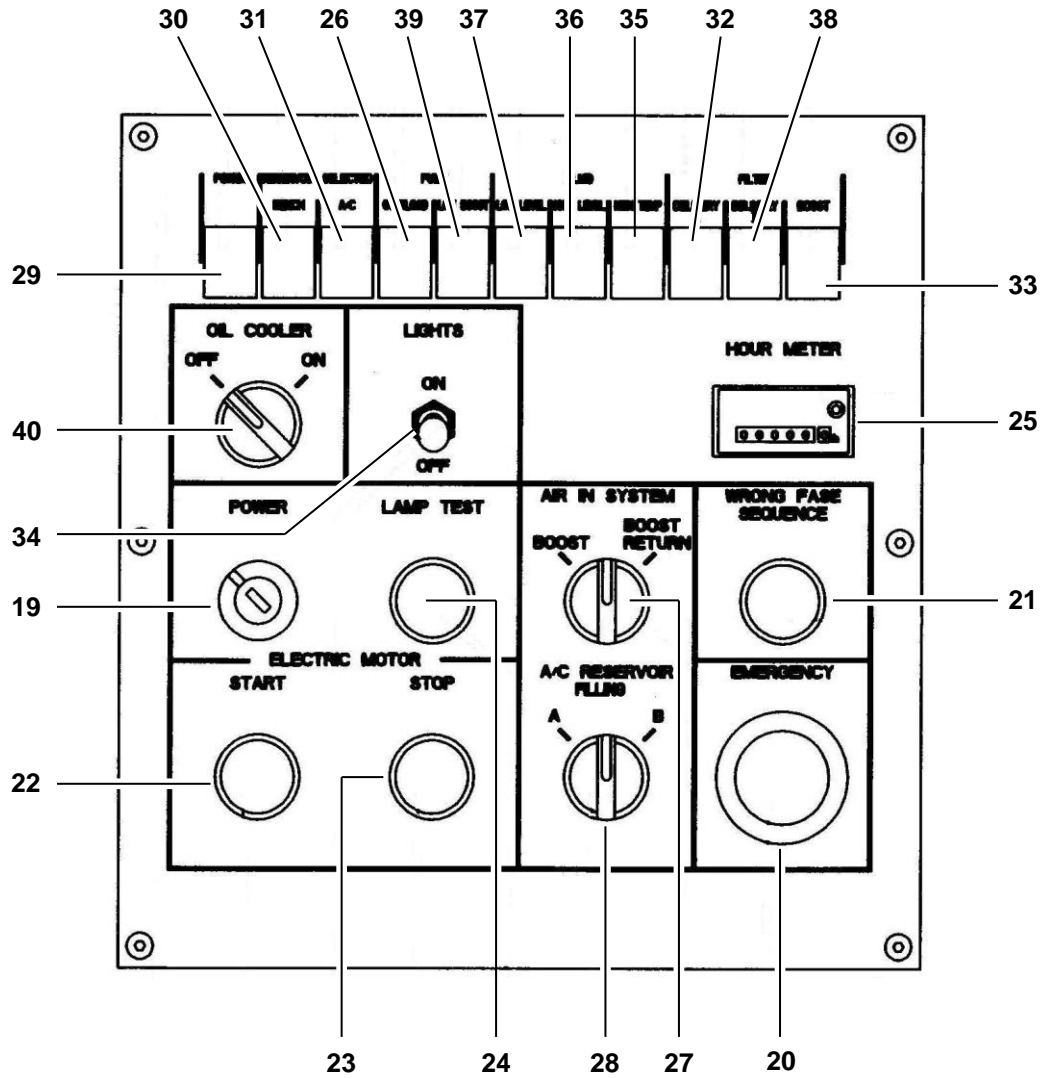
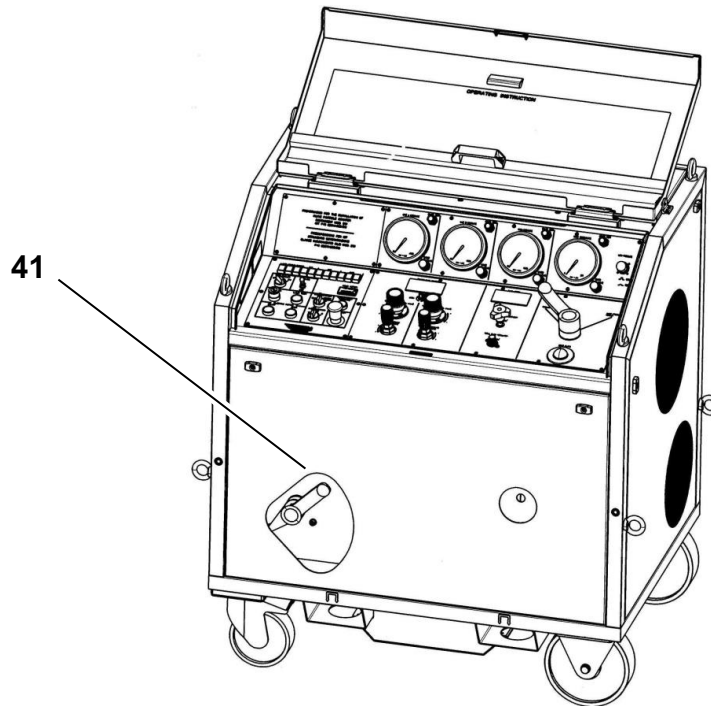

Fig. 3.2 ELECTRICAL SYSTEM CONTROL PANEL
Fig. 3.4 AIR BLEEDING OPERATION
Turn on the key selector "POWER" (pos. 19 fig. 3.2); a green warning light pos. 29 fig. 3.2, light up.
In case the sequence of the phases is not correct, a red warning light "WRONG PHASE SEQUENCE" will start flashing (pos. 21 fig. 3.2),
When starting, some warning lights (pos. 26, 32 ÷ 33 e 35 ÷ 39 Fig. 3.2) will light up. Reset the warning light before use by clicking on it. If a signal persists, proceed to the corrective suitable action in table 3.3.
After the operation, turn off the bench acting on the key selector (pos. 19 fig. 3.2) "POWER".
The control panel, overseeing all Bench functions, consists of an hydraulic control panel (Fig.3.1) and an electric system control panel (Fig.3.2).
In the following procedures, please refer to fig. 3.1. / fig. 3.2 and to other figures mentioned in the specific paragraph.
3.3.2 AIR BLEEDING OPERATIONS (FIG. 3.4)
- e) Select the "bench reservoir" by acting on the valve (pos 41 Fig. 3.4) (the green warning light "BENCH" will light up (pos. 30 Fig. 3.2).
If the "By-PASS VALVE" (pos. 11 Fig. 3.1), is not completely opened or if the "RESERVOIR SELECTOR" lever is not in a correct position (pos. 41 Fig 3.4) the bench will not start.
The reservoir - selecting lever (pos. 41 Fig. 3.4) could not be operated when electric motor is running; this will stop the bench immediatly.
- g) Set master switch "POWER," (pos. 19 fig. 3.2) to on, it will light up the green light (pos. 29 fig. 3.2).
The wrong phase sequence inhibits the starting of the electric motor. When starting, some warning lights (pos. 26, 32 ÷ 33 e 35 ÷ 39 Fig. 3.2) will light up. Reset the warning light before use by clicking on it. If a signal persists, proceed to the corrective suitable action in table 3.3.
- h) Push start button (pos. 22 fig. 3.2) "START" and let the motor pump run for a few second.
- i) Turn the motor pump off pushing stop button (pos. 23 fig. 3.2) "STOP".
- l) Restart the motor pump by pushing start button (pos. 22 fig. 3.2) "START".
- n) Turn switch (pos. 27 fig. 3.2) on "BOOST" until the disappear of air from "SIGHT GLASS" (17 fig. 3.1). Release the switch.
- o) Turn switch (pos. 27 fig. 3.2) on "BOOST RETURN" until the disappear of air from "SIGHT GLASS" (pos. 17 fig. 3.1). Release the switch.
- p) Turn the motor pump off pushing "STOP" button (pos. 23 fig. 3.2).
- e) Turn on the "POWER" switch (pos. 19 fig. 3.2); the green light will light up (pos. 29 fig. 3.2).
- f) Push the "START" button (pos. 22 fig. 3.2).
- b) Turn the motor pump off pushing “STOP” button (pos. 23 fig. 3.2).
- c) Turn “POWER” switch off (pos. 19 fig. 3.2); light (pos. 29 fig. 3.2) turns off.
- f) Select the reservoir by selector (pos. 41 fig. 3.4) - “BENCH” light (pos. 30 fig. 3.2) or “A/C” light (pos. 31 fig. 3.1) light up.
- h) Set “POWER” switch to on (pos. 19 fig. 3.2) – Light (pos. 29 Fig. 3.2) light up.
- i) Push “START” button (pos. 22 fig. 3.2).
- k) Set pressure limit value by “MAIN PRESSURE ADJUSTMENT” valve (pos. 14 fig. 3.2).
- f) Select the reservoir by selector (pos. 41 fig. 3.4) - “BENCH” light (pos. 30 fig. 3.2) or “A/C” light (pos. 31 fig. 31) light up.
When using aircraft pressurized reservoir select bench reservoir by selector (pos. 41 fig. 3.4) (light pos. 30 fig. 3.2 on) and select the “BACK PRESSURE RETURN” by selector (pos. 10 fig. 3.1). Valves selection must be operated when hydraulic test bench in OFF.
- a) Select "BENCH RESERVOIR" by acting on the selector (pos 41 Fig. 3.4) and be sure that the relevant warning light “BENCH” (pos. 30, Fig. 3.2), on the control panel, lights up;
- b) Connect return hoses (R(A) or R(B) to the quick-disconnect coupling of the aircraft;